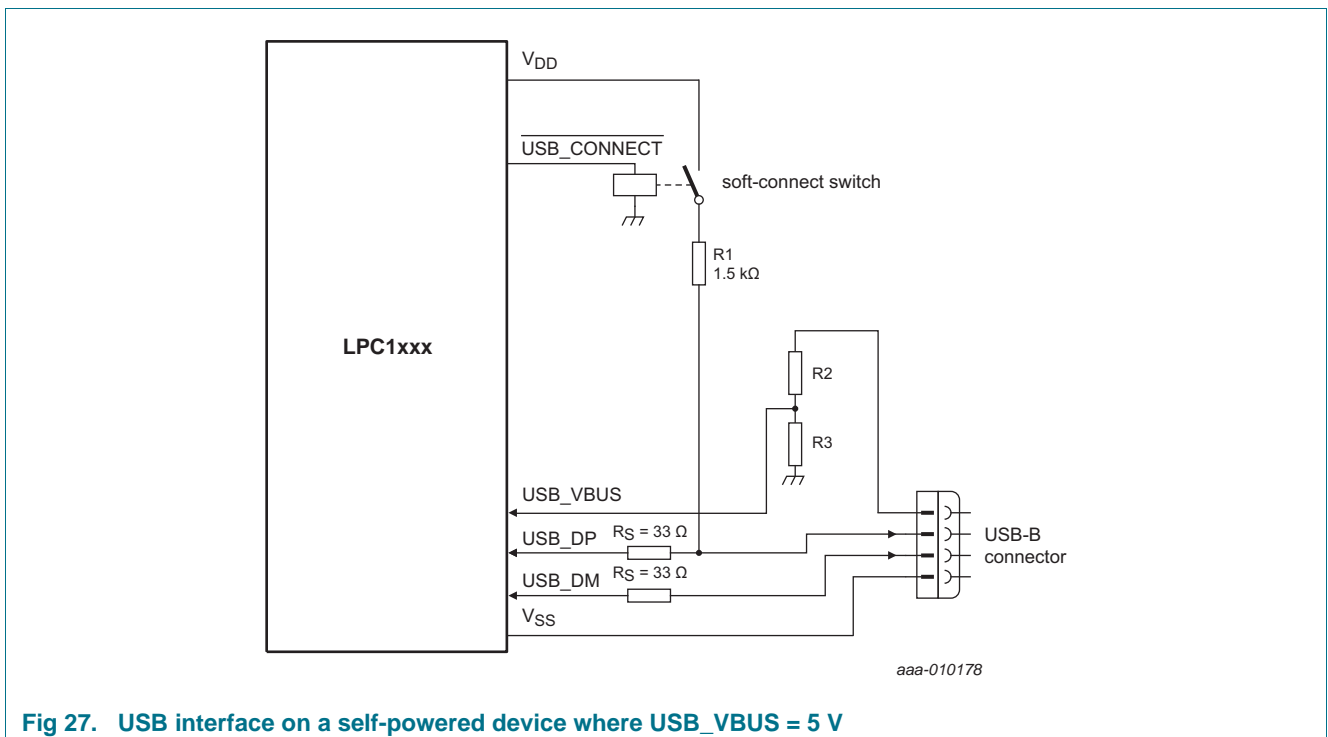
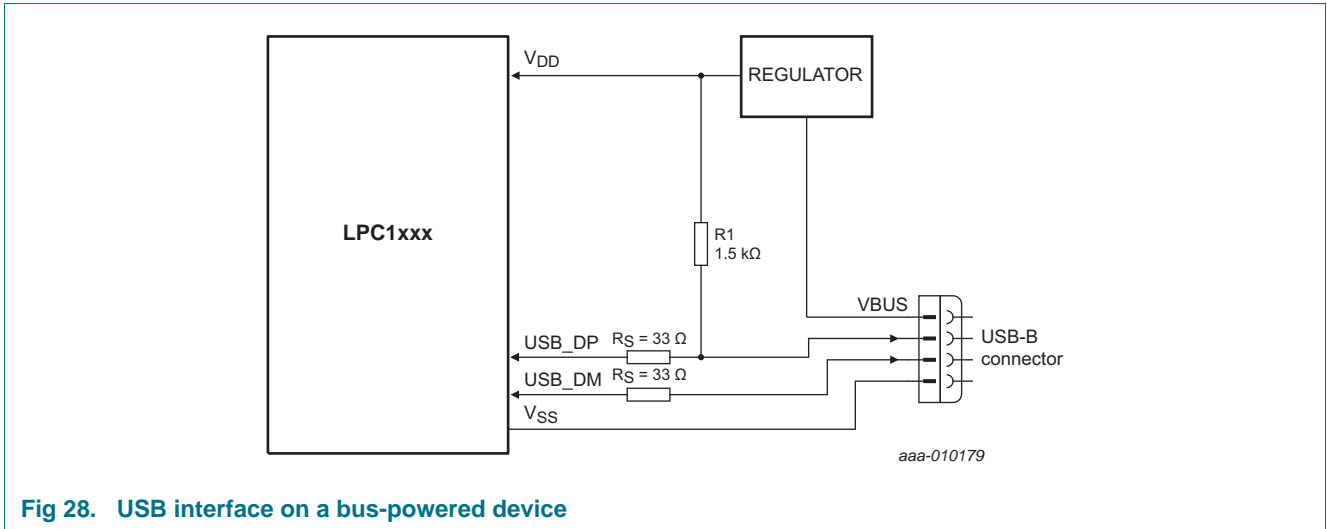

Fig 27. USB interface on a self-powered device where  $USB\_VBUS = 5 \text{ V}$
Fig 28. USB interface on a bus-powered device
The USB device can be connected to the USB as self-powered device (see Figure 27) or bus-powered device (see Figure 28).
For a bus-powered device, the VBUS signal does not need to be connected to the USB\_VBUS pin (see Figure 28). The `USB_CONNECT` function can additionally be connected as shown in Figure 27 to prevent the USB from timing out when there is a significant delay between power-up and handling USB traffic.
**Remark:** When a bus-powered circuit as shown in Figure 28 is used, configure the `PIO0_3/USB_VBUS` pin for GPIO (`PIO0_3`) in the `IOCON` block to ensure that the `USB_CONNECT` signal can still be controlled by software. For details on the soft-connect feature, see the *LPC11U3x user manual* (Ref. 1).